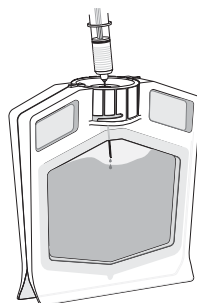

Figure 8 Add sample.
3. Inject approximately half of the sample (Figure 8). For samples with high protein concentrations (e.g., 10 mg/mL), fill the cassette slowly to avoid foaming